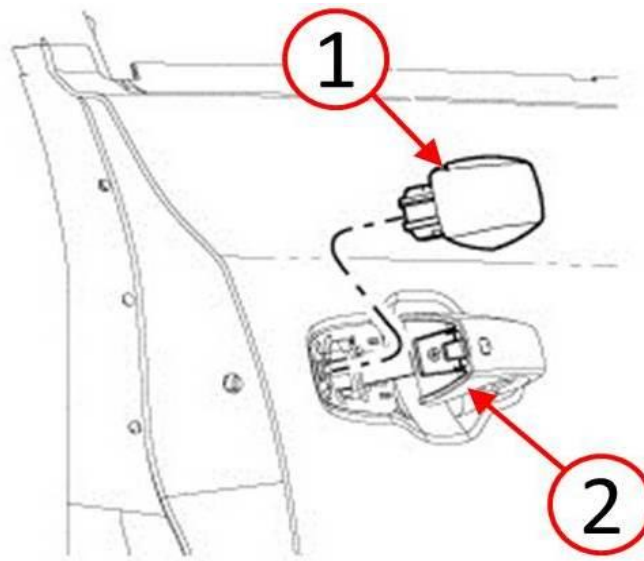

Fig. 11 Install Door Handle Cap
12. Lift the exterior door handle (2) to the open position (Fig. 11).
13. While holding the exterior handle (2) in the open position, insert the door handle cap (1) (Fig. 11).